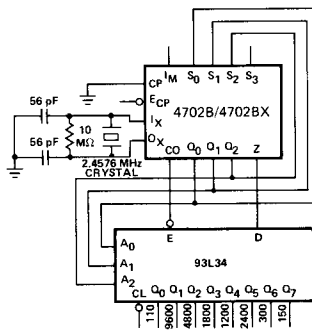

Fig. 2
Fixed Programmed Multichannel Operation — *Figure 2* shows a simple scheme that generates eight bit rates on eight output lines, using one 4702B/4702BX and one 93L34 8-Bit Addressable Latch. This and the following applications take advantage of the built-in scan counter (prescaler) outputs. As shown in the block diagram, these outputs (Q₀ to Q₂) go through a complete sequence of eight states for every half-period of the highest output frequency (9600 Baud). Feeding these Scan Counter outputs back to the Select inputs of the multiplexer causes the 4702B/4702BX to interrogate sequentially the state of eight different frequency signals. The 93L34 8-Bit Addressable Latch, addressed by the same Scan Counter outputs, reconverts the multiplexed single output (Z) of the 4702B/4702BX into eight parallel output frequency signals. In the simple scheme of *Figure 2*, input S₃ is left open (HIGH) and the following bit rates are generated: